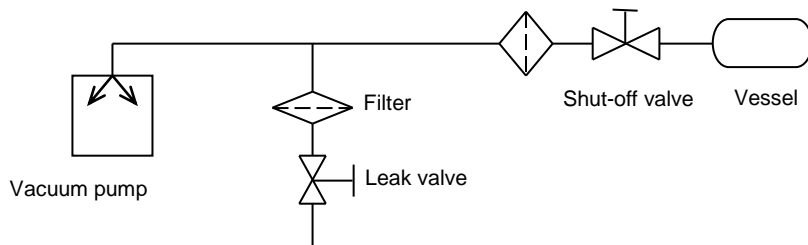

Fig. 3-2 Example of Piping Used When Evacuating a Vessel
- 5) Please attached the Shut off valve like figure 3-2 when evacuating a vessel.